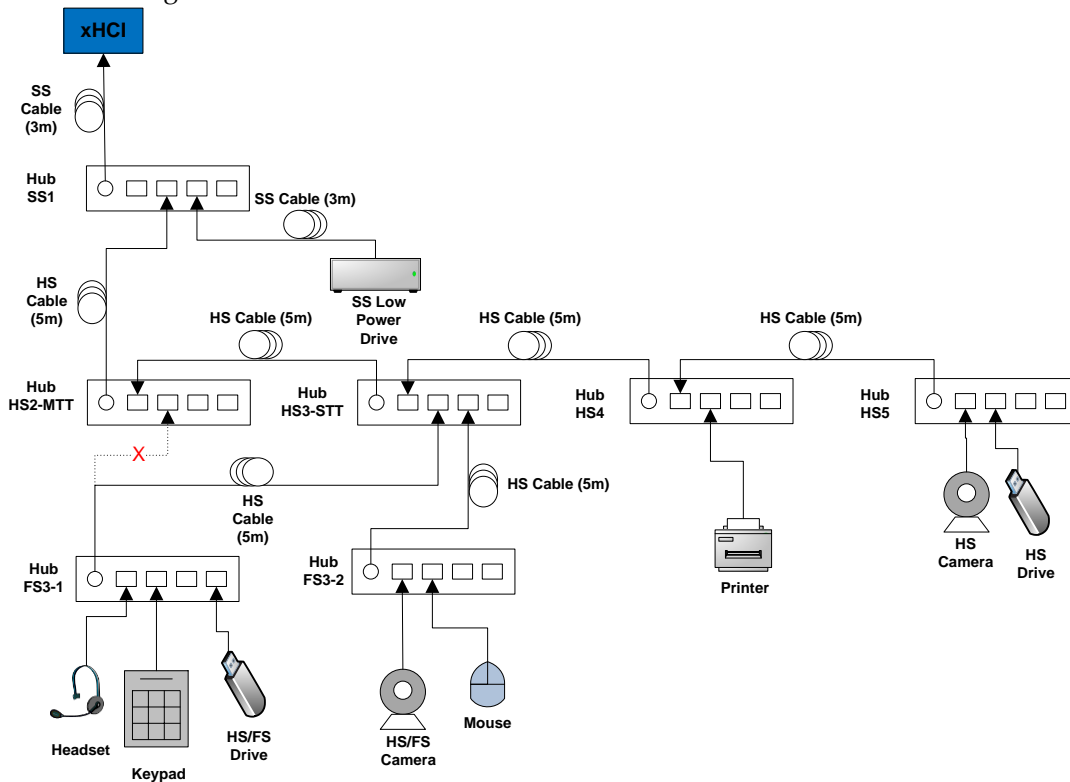

Figure 5: Topology Change 2
- While operating the devices, reattach Hub FS3-1 to port 2 on Hub HS3-STT as shown in Figure 5.